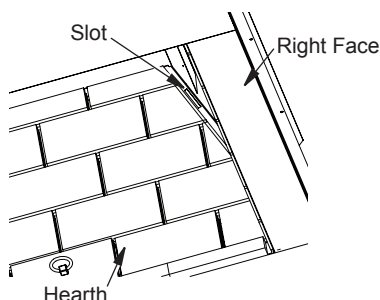

Figure 14 - Slots for Firebrick Walls
1. The firebox is shipped with the firebrick wall retaining brackets preinstalled. There are a total of six (6) brackets. Remove these brackets before installing any of the firebrick walls.
4. Install the left and right firebrick walls. There is a bracket with 2 tabs on the bottom of each firebrick wall. Angle the wall into the fireplace opening and into the slots on the side of the hearth (Figure 14), then tilt the top of the panel toward the firebox surround.